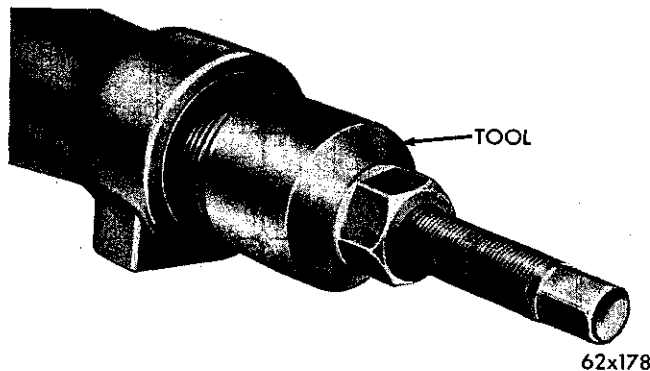

Fig. 35—Removing Output Shaft Oil Seal
(3) Screw the taper threaded end of Tool C-748 into the seal (Fig. 35) then tighten the screw of the tool to remove the seal.